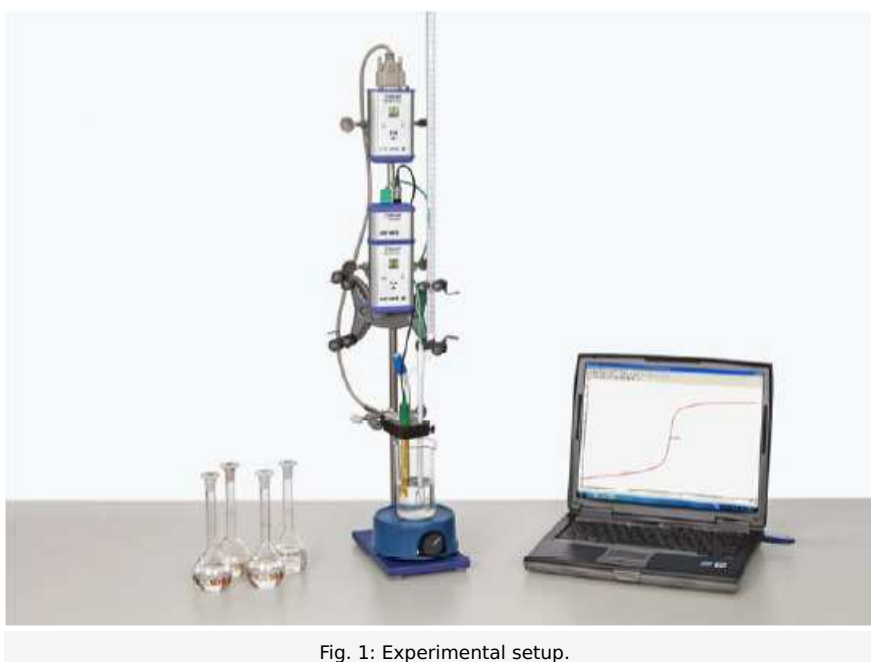

Fig. 1: Experimental setup.
- Set up the experiment as shown in Fig. 1.